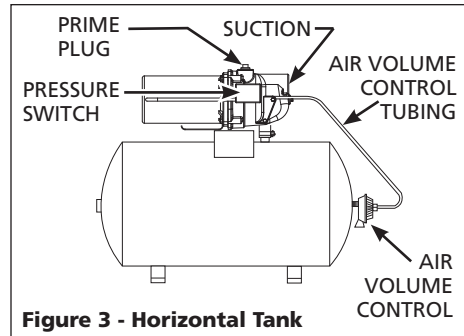

Figure 3 - Horizontal Tank
1. Remove prime plug (Figure 3 on page 3).